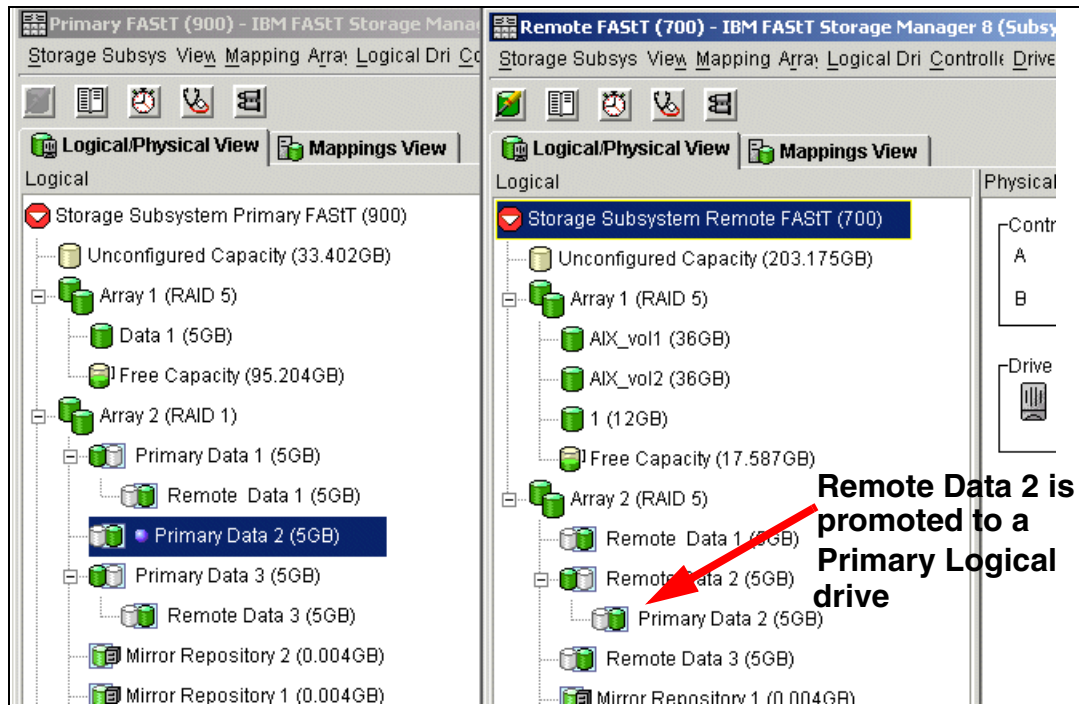

Figure 8-38 Change secondary to primary completed
In the example illustrated in Figure 8-38, the Logical View shows the secondary logical drive *Remote Data 2* in the remote FASST (700) storage subsystem has been promoted to primary. The secondary logical drive *Primary Data 2*, from the Primary FASST (900) storage subsystem is displayed as a child node of the Remote Data 2 in the Subsystem Management window.